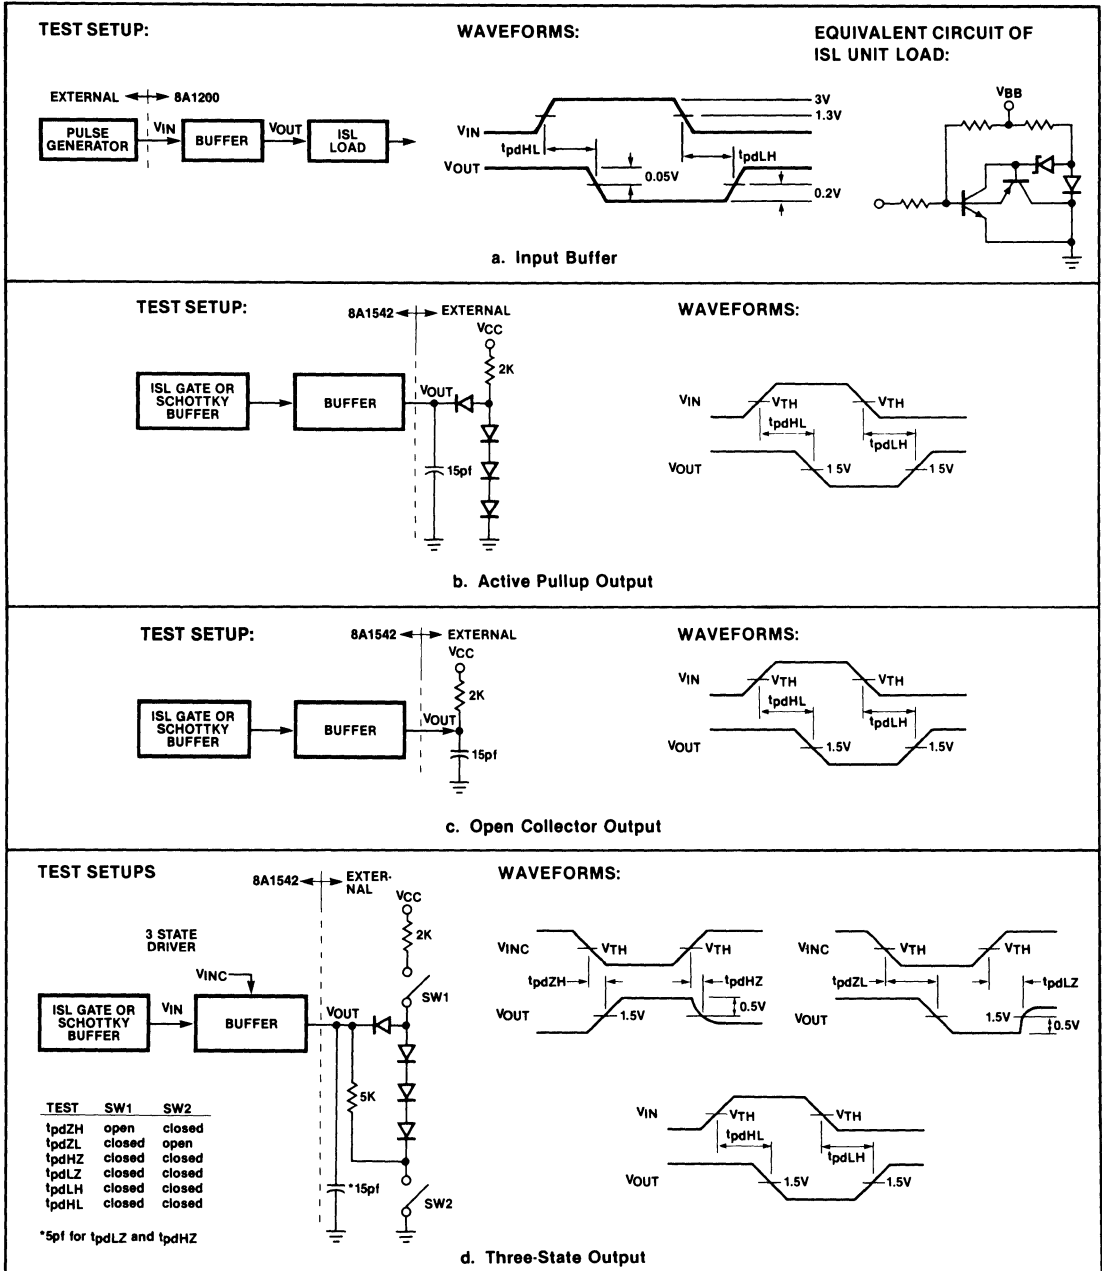

Figure 5. Test Circuits
- 4-Bit Universal Shift Register (Figure 5)—similar to 74194.